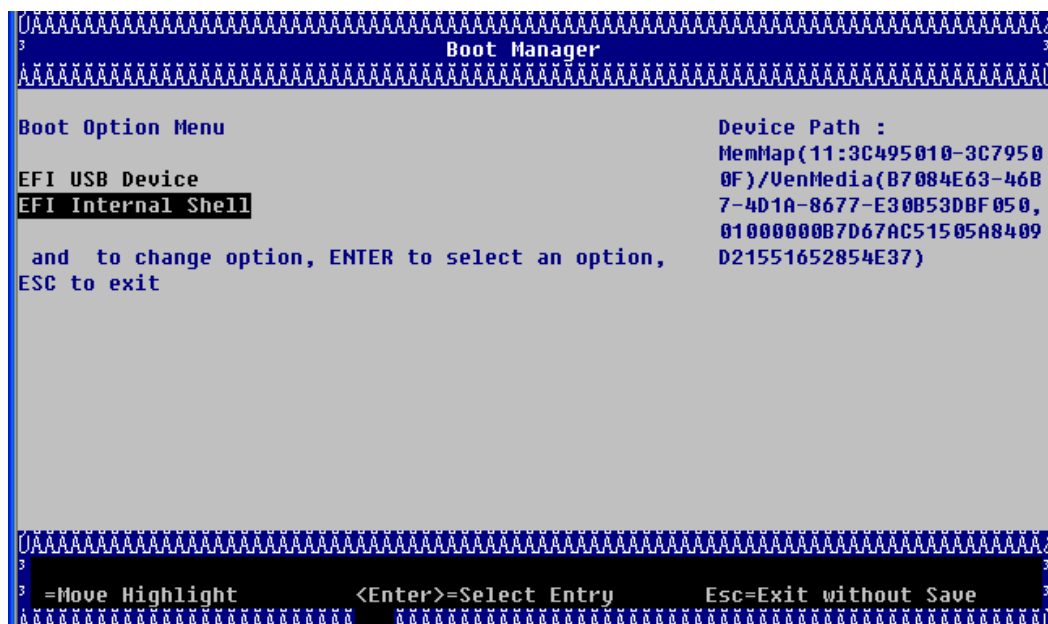

Figure 2 Select Internal EFI Shell
2. Select the menu "Internal EFI Shell" in the Boot Manager as shown in Figure 2.